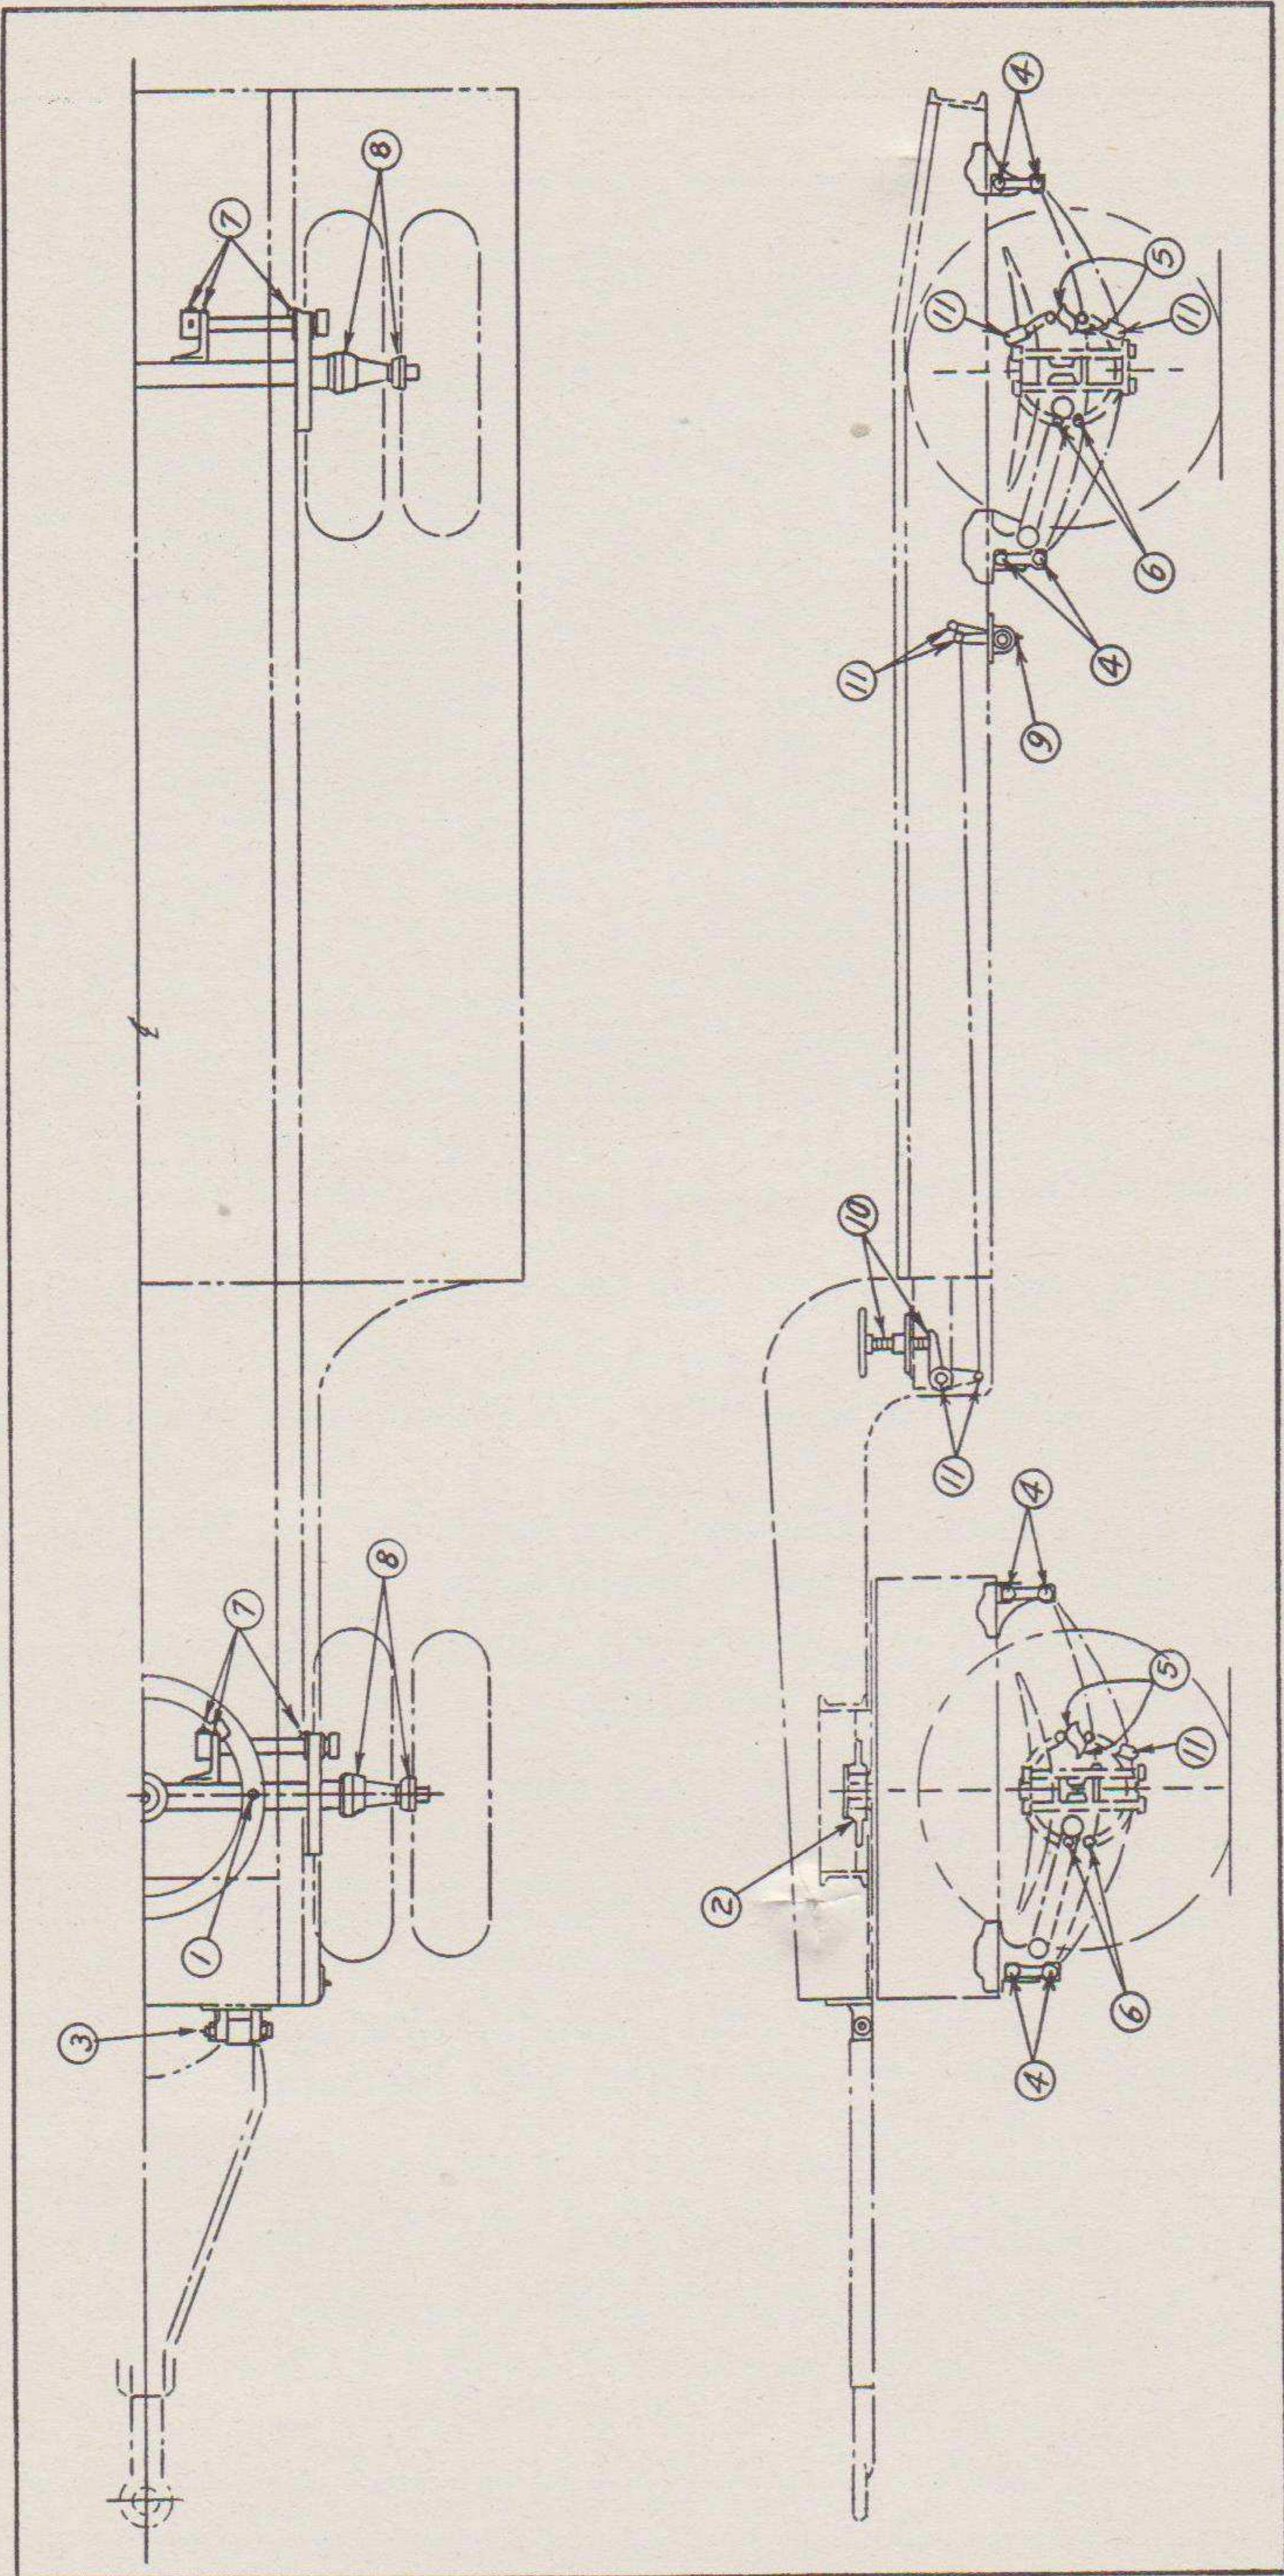

FIGURE 4. LUBRICATION CHART
2. MONTHLY LUBRICATIONS.—*a. Lubrication.* (See lubrication chart for the type of lubricant, when to lubricate, and the method to follow in lubricating the assemblies and sub-assemblies listed below.) (Figure 4.)